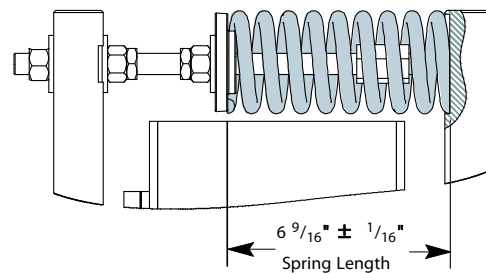

Figure 22 - Spring Adjustment (de-energized state)
- If the spring length is greater than 6 9/16 inches but less than 6 13/16 inches, loosen the spring jamb nut (M16) and use the spring adjustment nut (M16) to adjust the spring length to 6 9/16 inches. See Figure 22 on page 28.